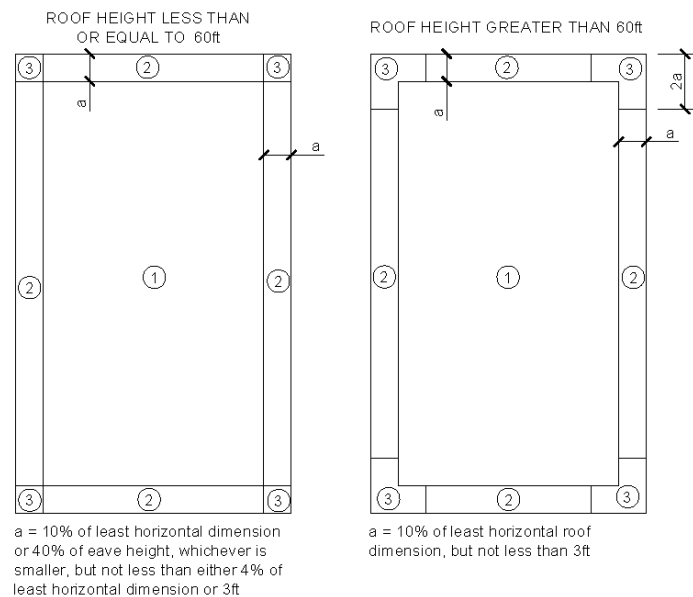
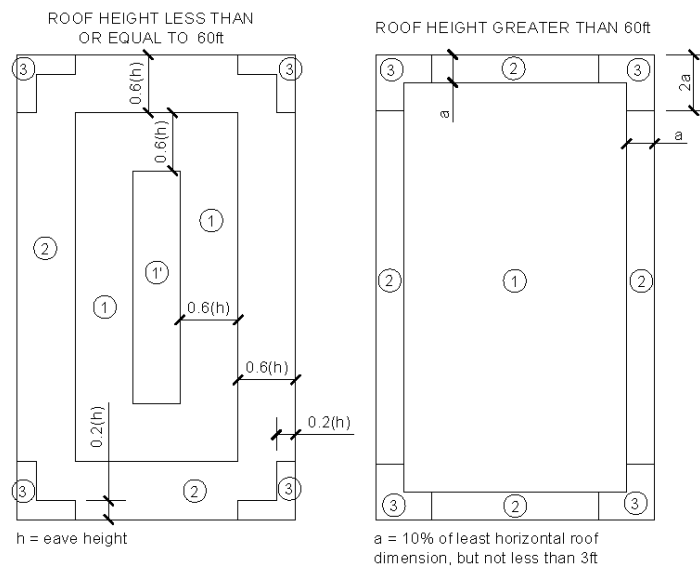

Figure 5a ASCE 7-05/10 Roof Zones for Low-Slope Roofs  $\theta \leq 7^\circ$
Figure 5b ASCE 7-16 Roof Zones for Low-Slope Roofs  $\theta \leq 7^\circ$
SOPREMA® insulation attachment guidelines are offered for SOPREMA® warranty purposes only. Guidance provided herein is not specific to any particular project design and is not a substitute for professional design services. Figure 5a and Figure 5b provide general guidance to determine roof zone size and dimensions for SOPREMA® warranty purposes only. Refer to jurisdictional codes and design documents necessary to comply with wind uplift resistance requirements.
- Refer to design documents for roof zones, and install the appropriate ribbon (bead) spacing for each board to comply with project requirements for each roof zone. Refer to Figure 5a and Figure 5b for roof zones dimensions.